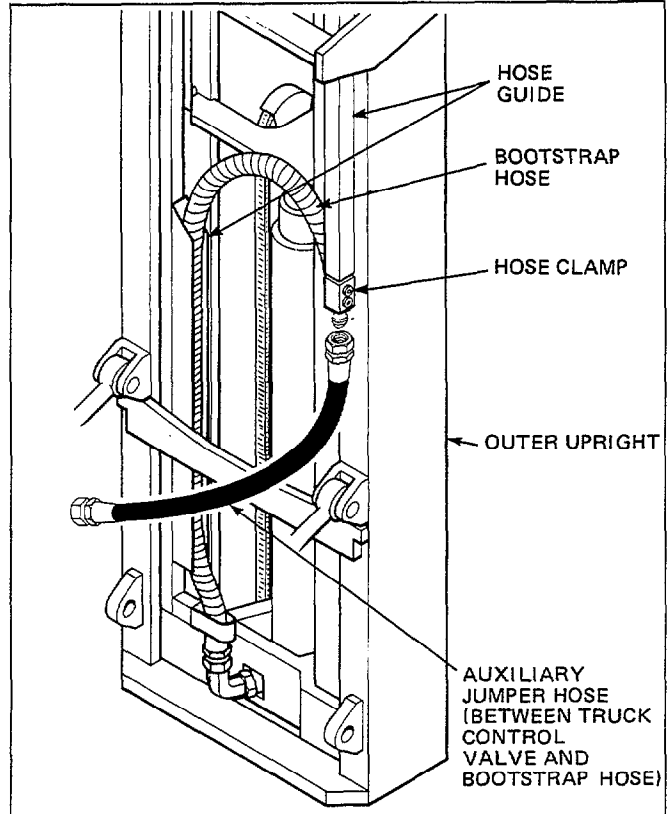

Figure 30. Rear View of Mast Assembly
3. Remove the truck auxiliary hose from the hoist cylinder bootstrap hose. See Figure 30. Be prepared to collect oil. Plug the bootstrap hose and cap the truck auxiliary hose.